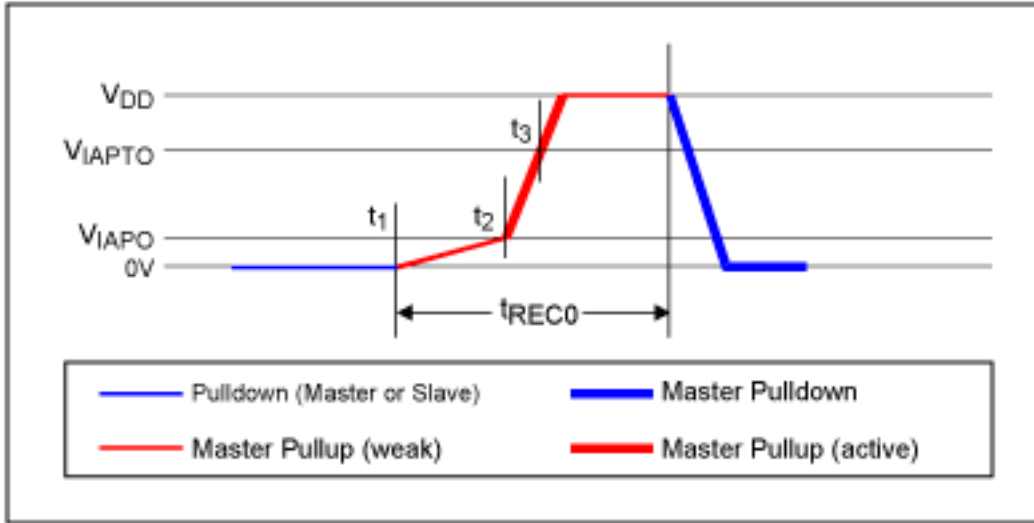

Figure 4. Rising edge details.
**Figure 4** illustrates the process.